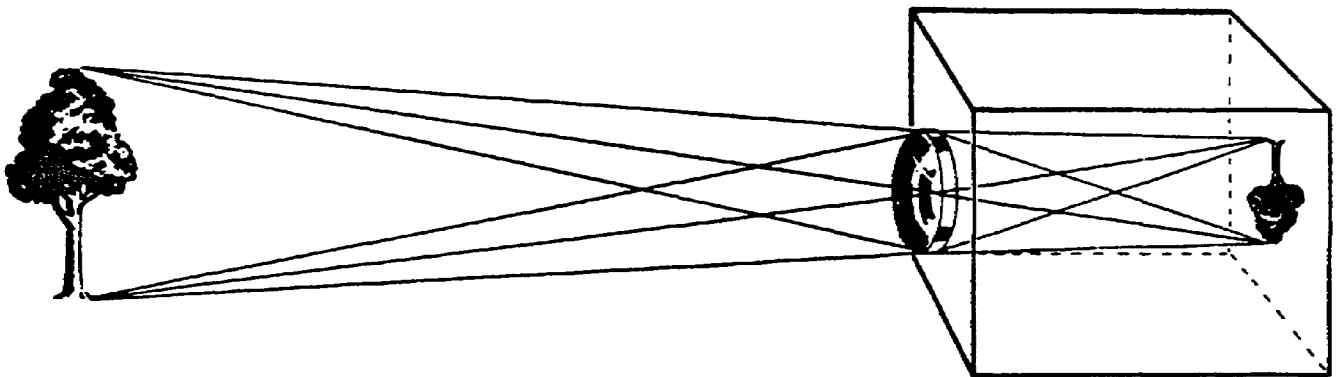

Figure 2-5. Formation of an image by a lens.
e. The camera lens, therefore, consists of a series of prisms incorporated in a single circular piece of glass, and the image is formed in the same manner as if two prisms were placed base to base. This eliminates the need for individual pinholes and prisms, (fig 2-5).